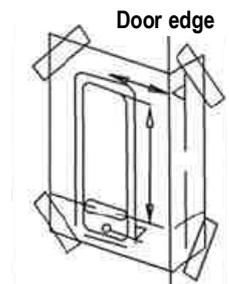

Figure 1
- Position and tape the template (T/051/SBL700), to the internal door face, at the desired height from the floor level. Ensure that the relevant door edge mark on the template is correctly aligned with actual door edge. (Figure 1)